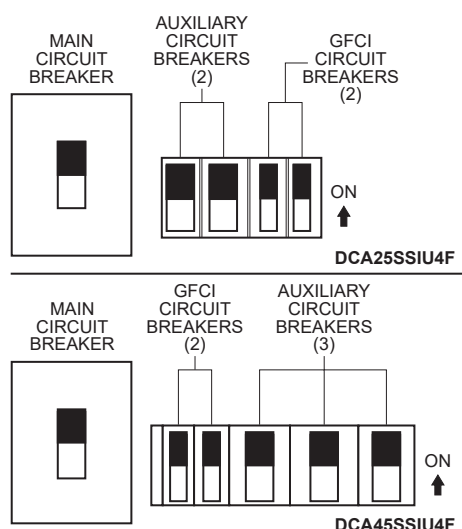

Figure 16. Main, Auxiliary, And GFCI Circuit Breakers (ON)
12. Place the **main, auxiliary, and GFCI circuit breakers** in the **ON** position (Figure 16).